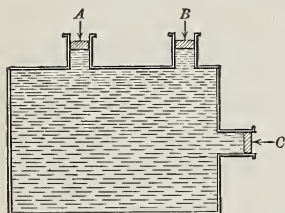

Fig. 72.—Box Filled with Water and Fitted with Three Equal Pistons
**Pascal's Experiments** These questions also occurred to him, and he set himself the task of answering them. To do this, Pascal performed many experiments, one of which we will consider here. Observe Fig. 72. Here we have a tank in which there are three openings, two on the top and one at the side. Each of these has the same area, and is fitted with a piston. If the box be completely filled with water